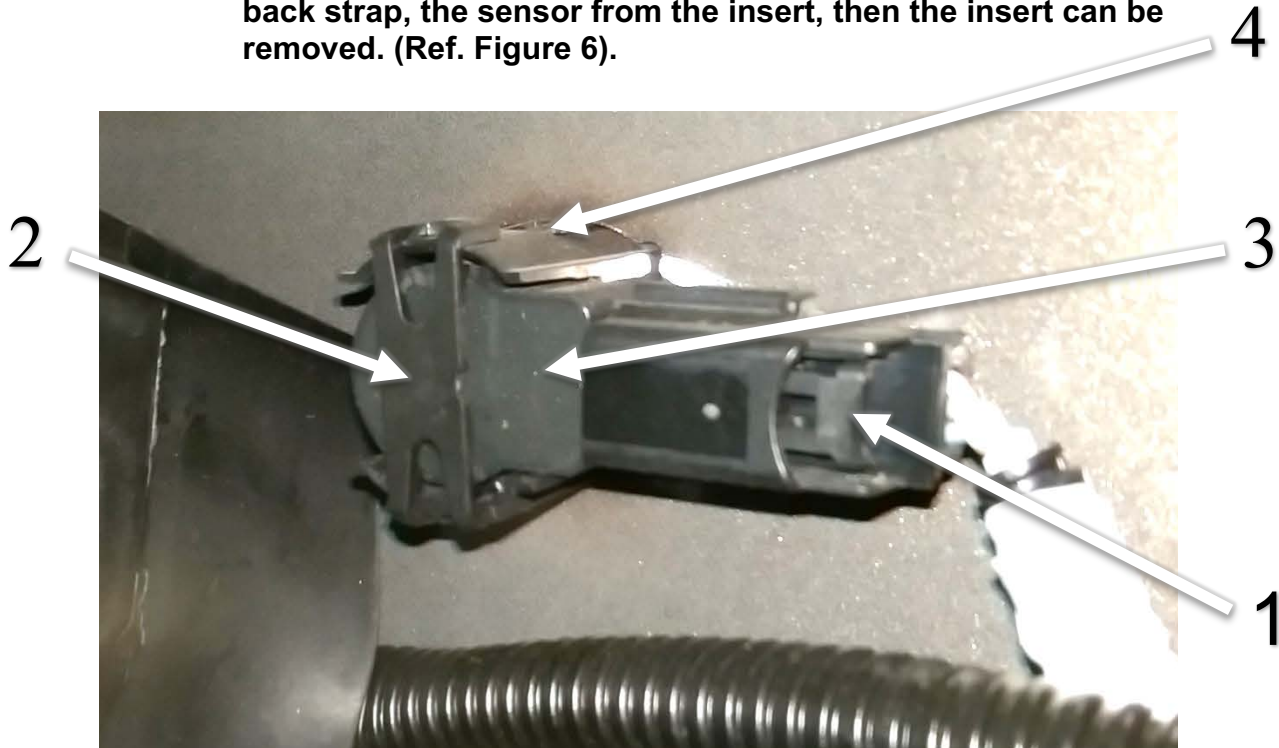

Figure 6 (SENSOR REMOVAL SEQUENCE)
- F. Remove OEM electrical harness from bumper by removing the push pins. Disconnect harness from fog lights and sensors. Remove the sensor units from the bumper by removing the back strap, the sensor from the insert, then the insert can be removed. (Ref. Figure 6).